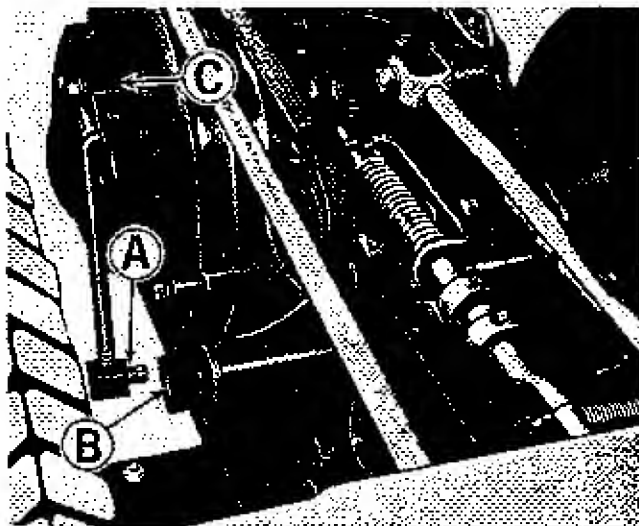

Figure 11. Shuttle drive adjustments.
8. See figure 11. Remove the cotter pin from swivel (A) and pull swivel (A) out of hole (B). Rotate swivel (A) until all slack is removed from brake band (C) when swivel (A) is placed through hole (B).
9. Install the cotter pin in swivel (A) to hold it in position through hole (B).
**Will not pull with full power in reverse.** Repeat steps 7 through 9 tightening brake band (figure 11, item C) more than previously.
Tractor creeps rearward when control lever is in neutral. Repeat steps 7 through 9 placing less tension on the brake band (figure 11, item C) than before.